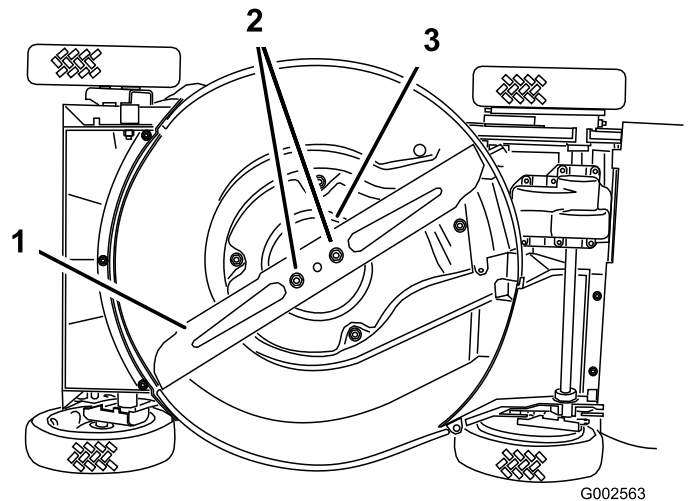

Figure 34
4. Tip the mower onto its **right** side (Figure 34).
Grasp the end of the blade using a rag or a thickly padded glove. Remove the blade nuts, the anti-scalp cup, and the blade (Figure 34).
5. Remove 2 blade nuts, the anti-scalp cup, and the blade (Figure 34).